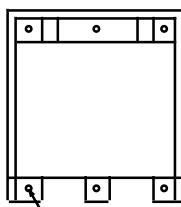

Figure 5-34. Junction Box Mounting
2. See Figure 5-34. Hold the junction box at the previously marked mounting location. Use a pencil to mark the two center mounting holes.